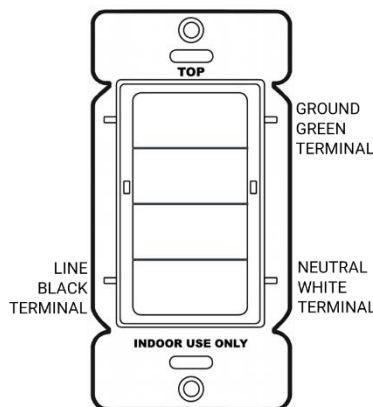

Figure 2 – Switch Wiring Diagram
3. If using a Ground wire, connect the Ground lead first by inserting into poke hole and tightening the Green screw. See Figure 2 and 3.